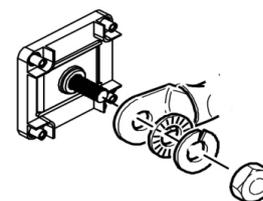

Fig. 1
- Connect the positive terminal **1** and negative terminal **2** to the battery pack. The lug goes first, then the flat washer, the lock washer and finally the nut (see Figure 1). Then replace the covers (red positive - black negative). A fuse should be fitted to the positive cable about 150 mm from the battery.